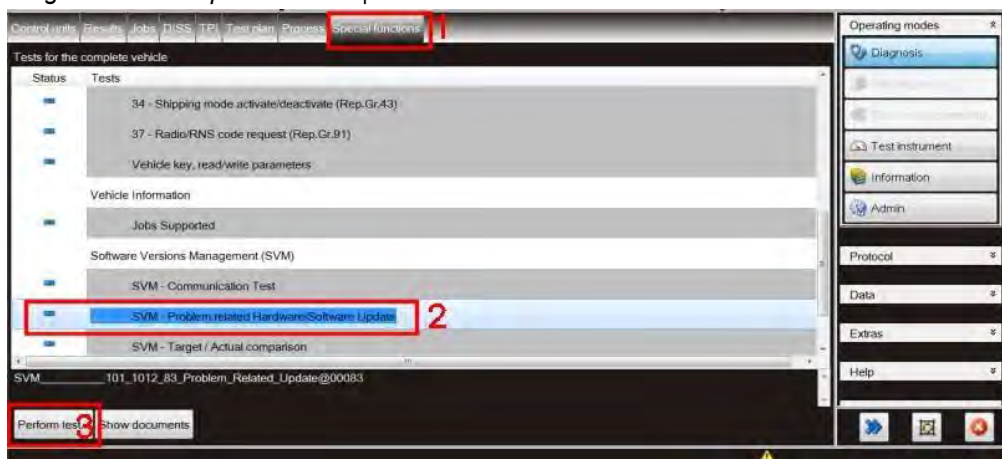

Figure 1
7. Select Special functions (1), Select SVM – Problem related Hardware/Software Update (2), Select Perform test (3) (see Figure 1)